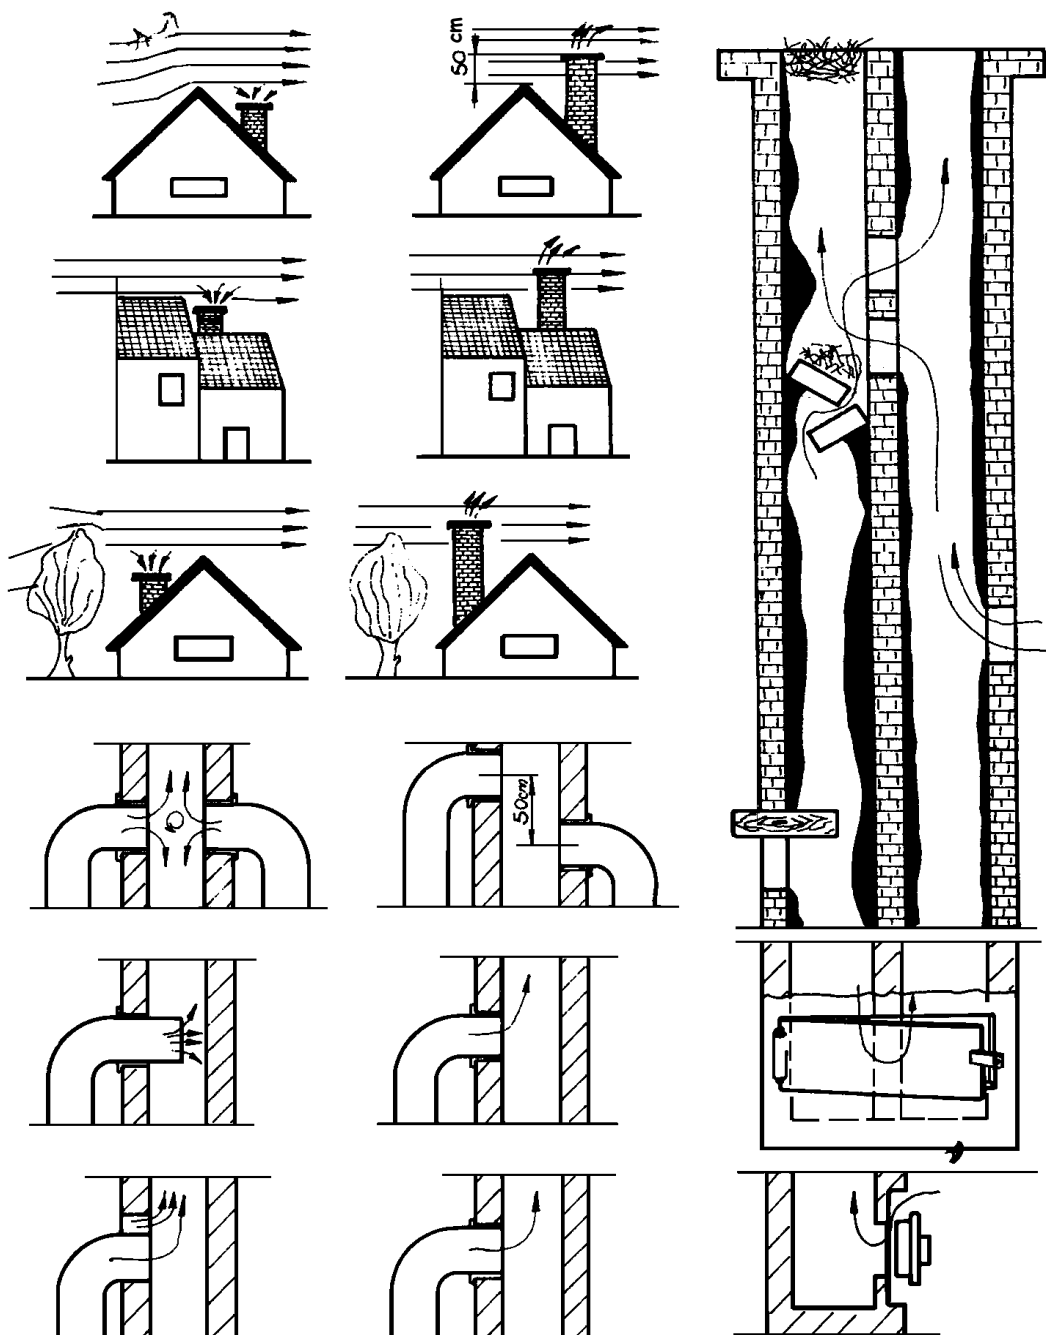

Figure 3
The flue is functioning well if it satisfies the following conditions (fig. 3):
Moving of the heating flap is performed by activating the knob (figure 3, position 11) which is positioned above the oven door. It is used for shortening of the path of flue gases during stoking. Open the heating flap only in a stage of kindling of the stove.
- \* Open the primary air regulator at the highest level of air release ( figure 3, position 9 )